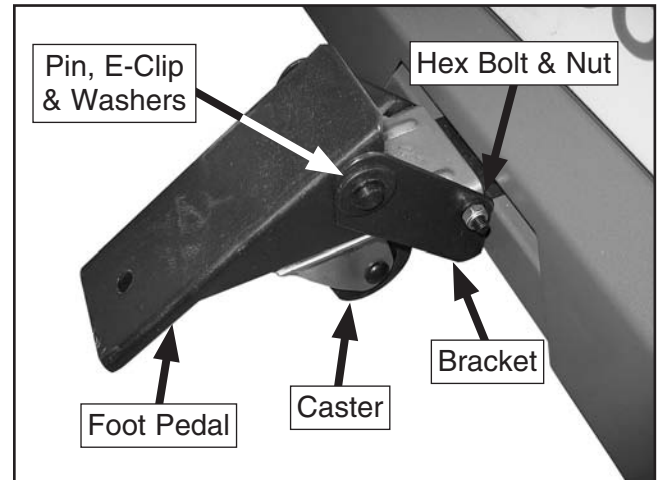

Figure 13. Foot pedal and caster installed.
17. Lock the caster and pedal in place with the E-clip and washers, as shown in **Figure 13**.